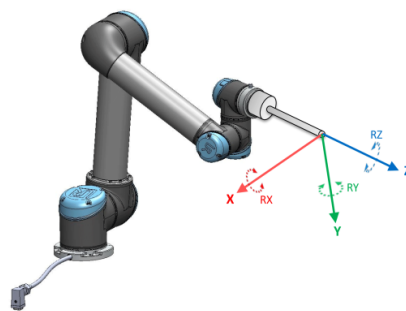

Figure 13.2: Tool (TCP) feature
- *Tool* feature: located with origin in the centre of the current TCP (see figure 13.2)